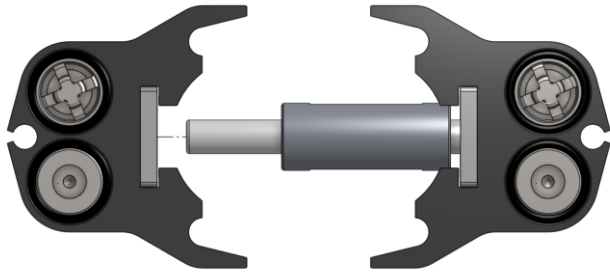

Figure 6
- Adjust plunger slot position towards center and have slot facing work surface. Replace all valves, o-rings, and white washers. Refer to Fig. 6, 7 or video for proper orientation.